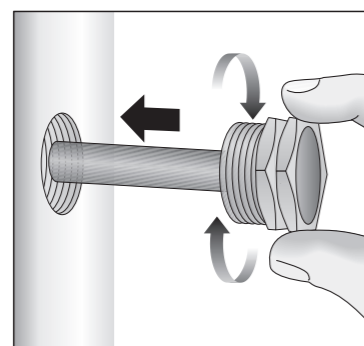
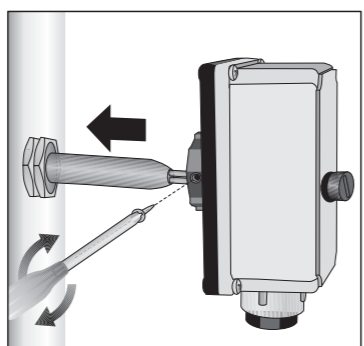

fig.3 - εκ.3
fig.4 - εκ.4
A) Vedere fig.3 e fig.4
A) See fig.3 and fig.4